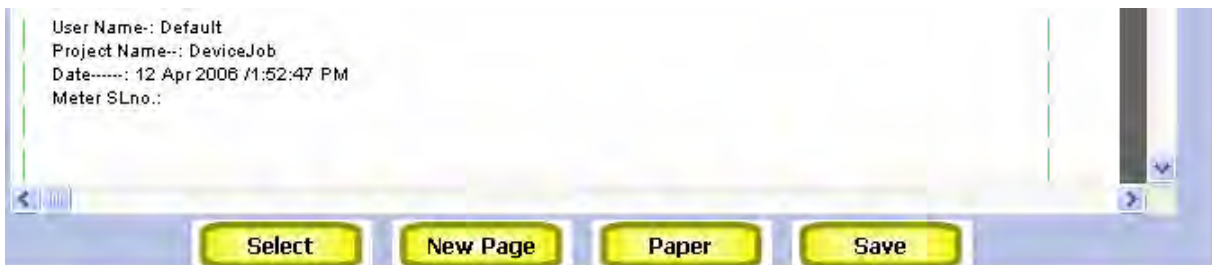

Figure 46 : Adding user information
3. A user info filed is added to the report. (Figure 46).